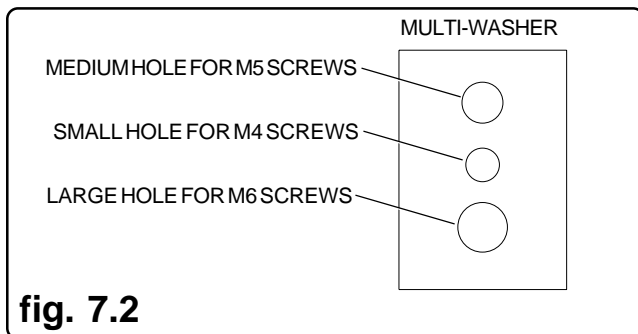

fig. 7.2
- Use the corresponding hole in the multi-washer that matches your screw size as shown in figure 7.2.